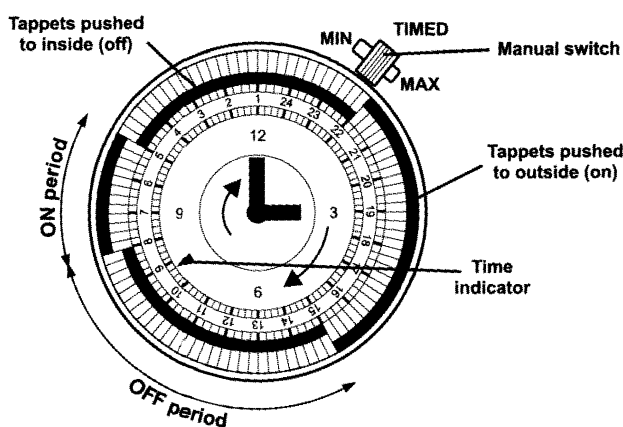

Fig. 6
Fig. 6 shows the clock set as follows:
d. Manual Switch - see Fig. 6